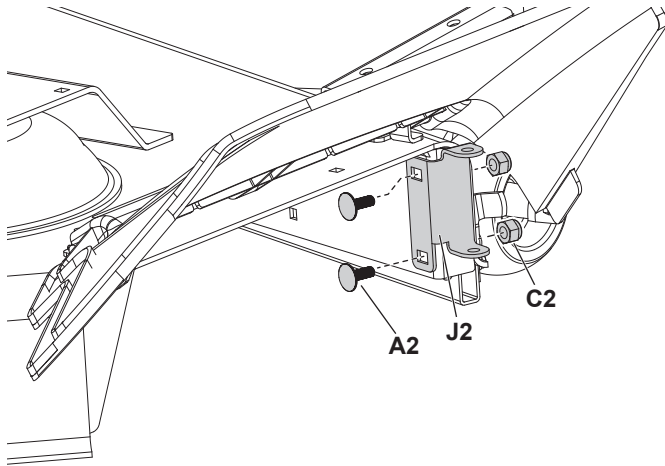

FIGURE 28
- Position deck adapter (21) against mower deck opening. Position deck hinge (J2) towards the front of the deck adapter as shown to determine placement of the hinge.
- Attach deck hinge using two 5/16" x 3/4" carriage bolts (A2) and 5/16" whizlock nuts (C2). See figure 28.